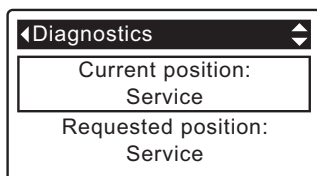

FIG. 96
4. Press the UP (▲) button to scroll through the list until **Current position** is displayed (See Figure 96).